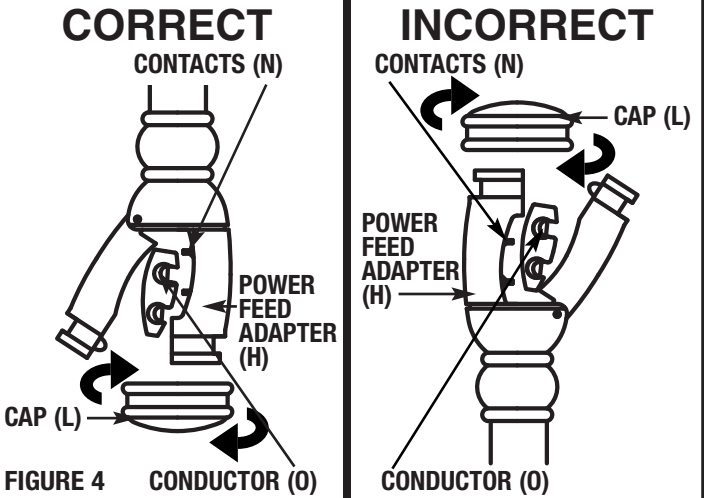

FIGURE 4
INSTALL RAIL ONTO POWER FEED AND SUPPORT (Fig. 4)
1. Unthread caps (L) from power feed and rail support adapters.
2. Install rail into rail adapters so conductors (O) face contacts (N) of power feed (see Fig 4). ***Please make sure contacts (N) fit into rail conductors (O) properly.** **NOTE:** If power feed or support adapters are not able to close around rail, turn rail around so adapters fit properly.
3. Close adapters over rail. Tighten grounding screw on power feed adapter (H) into rail with phillips head screw driver. Thread caps (L) back onto adapters.